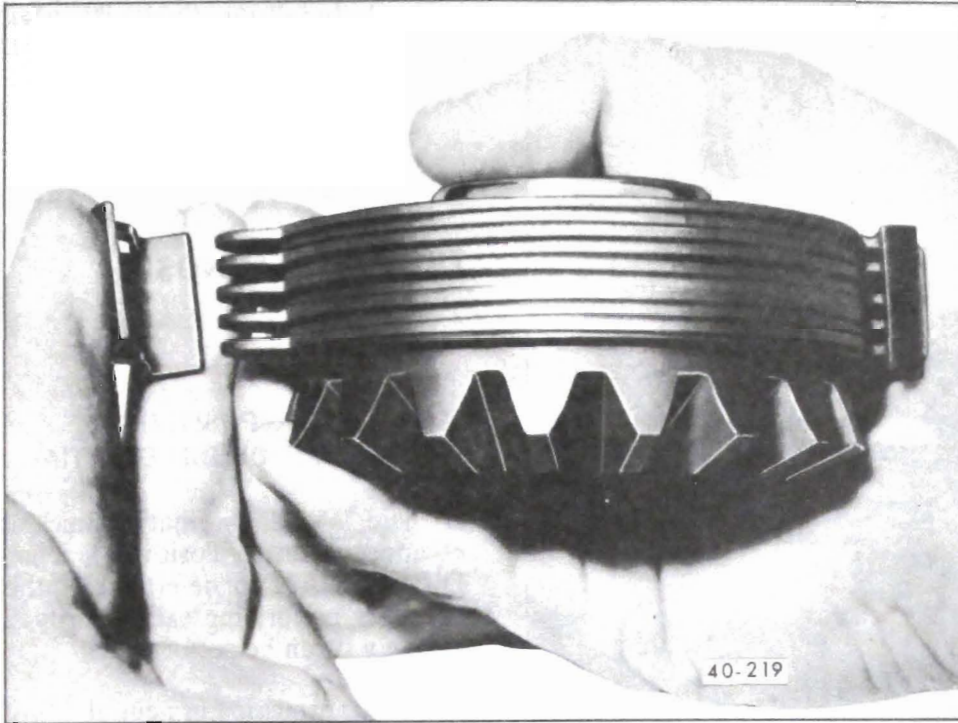

Figure 40-206 - Assembling Clutch Pack
2. Alternately install a clutch plate and a clutch disc on each side gear totalling 5 clutch plates and 4 clutch discs in each clutch pack. See Figure 40-206.